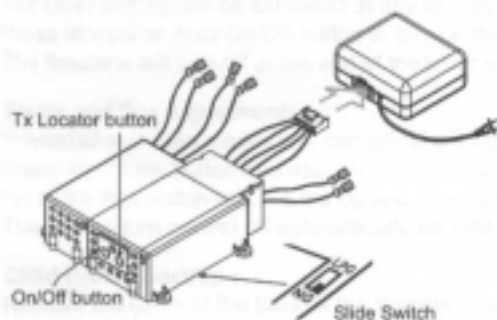

Figure 3
6. Slide the slide switch at the bottom of the Receiver to NG for natural gas and LPG for Liquid petroleum gas. See Fig. 3.
Acumen's Remove Control's location function can help user to find the Remove Transmitter easily. Turn on the Transmitter Location function by pressing the "Tx Locator" button on the Remove Receiver, and then transmitter will beep continuously (Two short and one long beep). Press any button on the Remove Transmitter to turn it off. See Fig. 3.